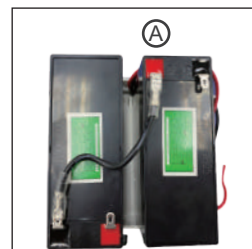

Fig.5
Step 5: After replacing the new batteries, please connect the wire (A) first, connect one end to the red positive pole (+), and one end to the black negative pole (-) of the other battery. (Fig.5)